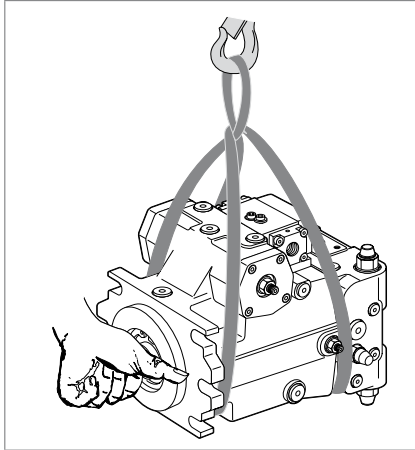

Fig. 8: Transport with lifting strap
- ▶ Place the lifting strap around the axial piston unit in such a way that it does not pass over attachments (e.g., valves, piping) and that the axial piston unit is not suspended from attachments (see Fig. 8).